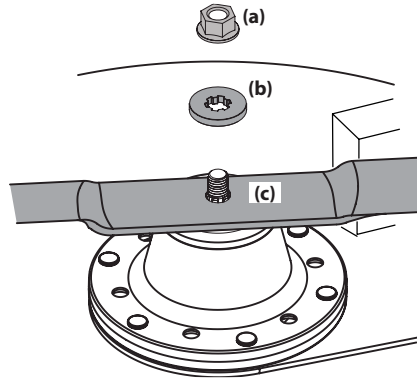

Figure 4-23
- Remove the flange lock nut (a) and flat washer (b) from the spindle shaft and remove the blade (c). See Figure 4-23.